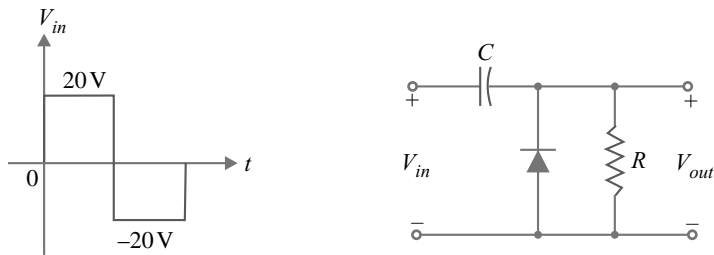

Fig. 16.80
7. Determine the output waveform for the clamper network shown in Fig. 16.80.